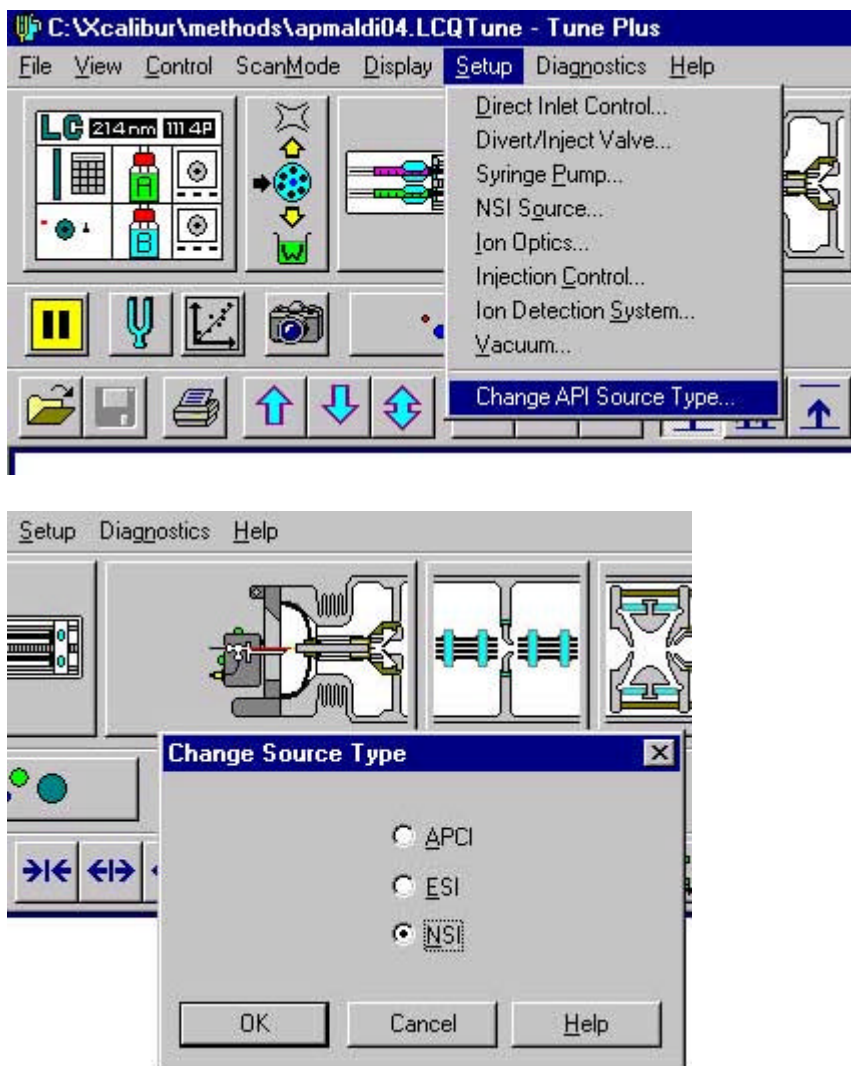

Fig. 31.
- protection, we recommend to configure LCQ for nanospray source (NSI). Follow the example in Fig. 31 below: